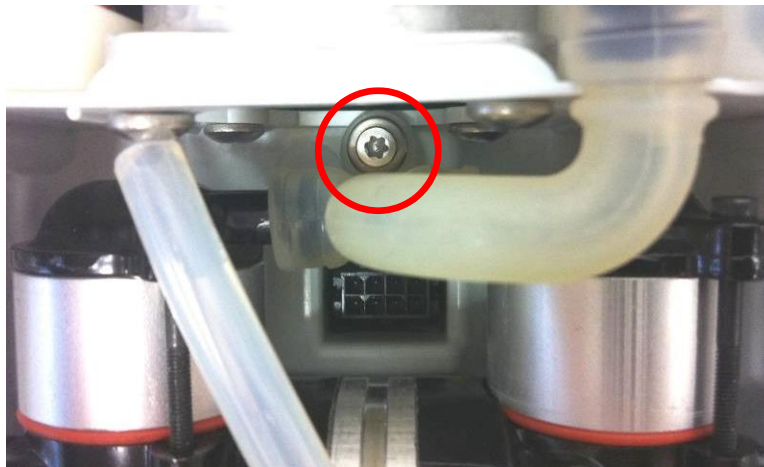

Figure 3: Dual feed tube screw and washer
3. Remove the screw and washer that connect the dual end of the feed tube to the chassis (Figure 3).